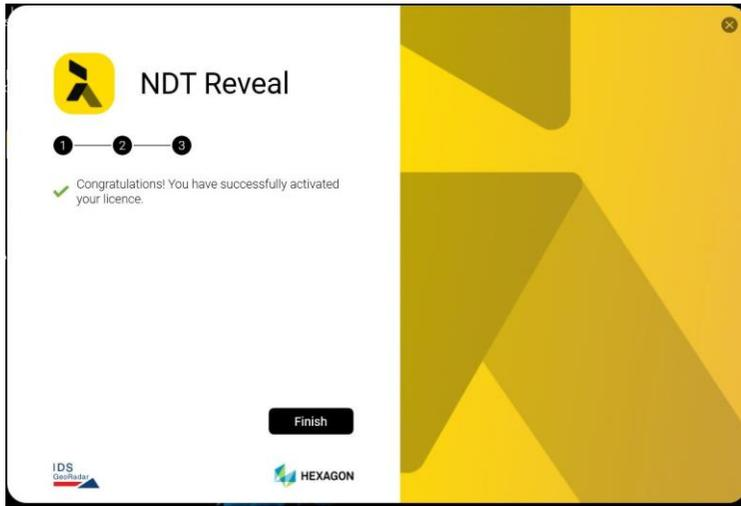

Fig. 14 NDT Reveal Activated License
14. The **NDT Reveal** is now active and ready to run (Fig. 14).